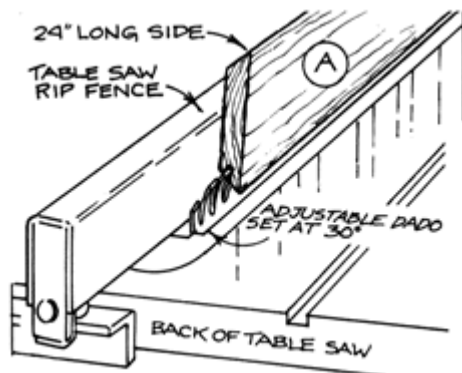

Figure 3. Making the Spine Cut
7. Make the spline cut (see **Figure 3**).